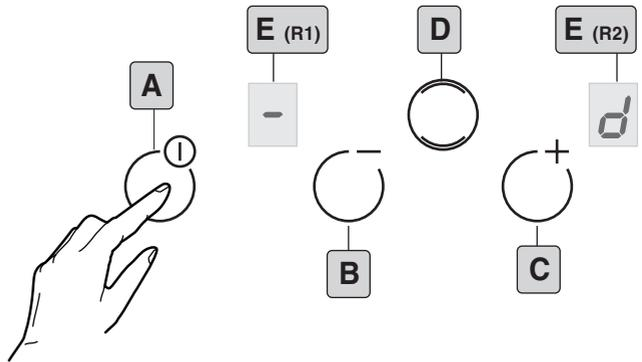

Fig.4
• **Functioning (Fig.4)**
#### O.S.D.(Overflow Safety Device) (Fig.4):